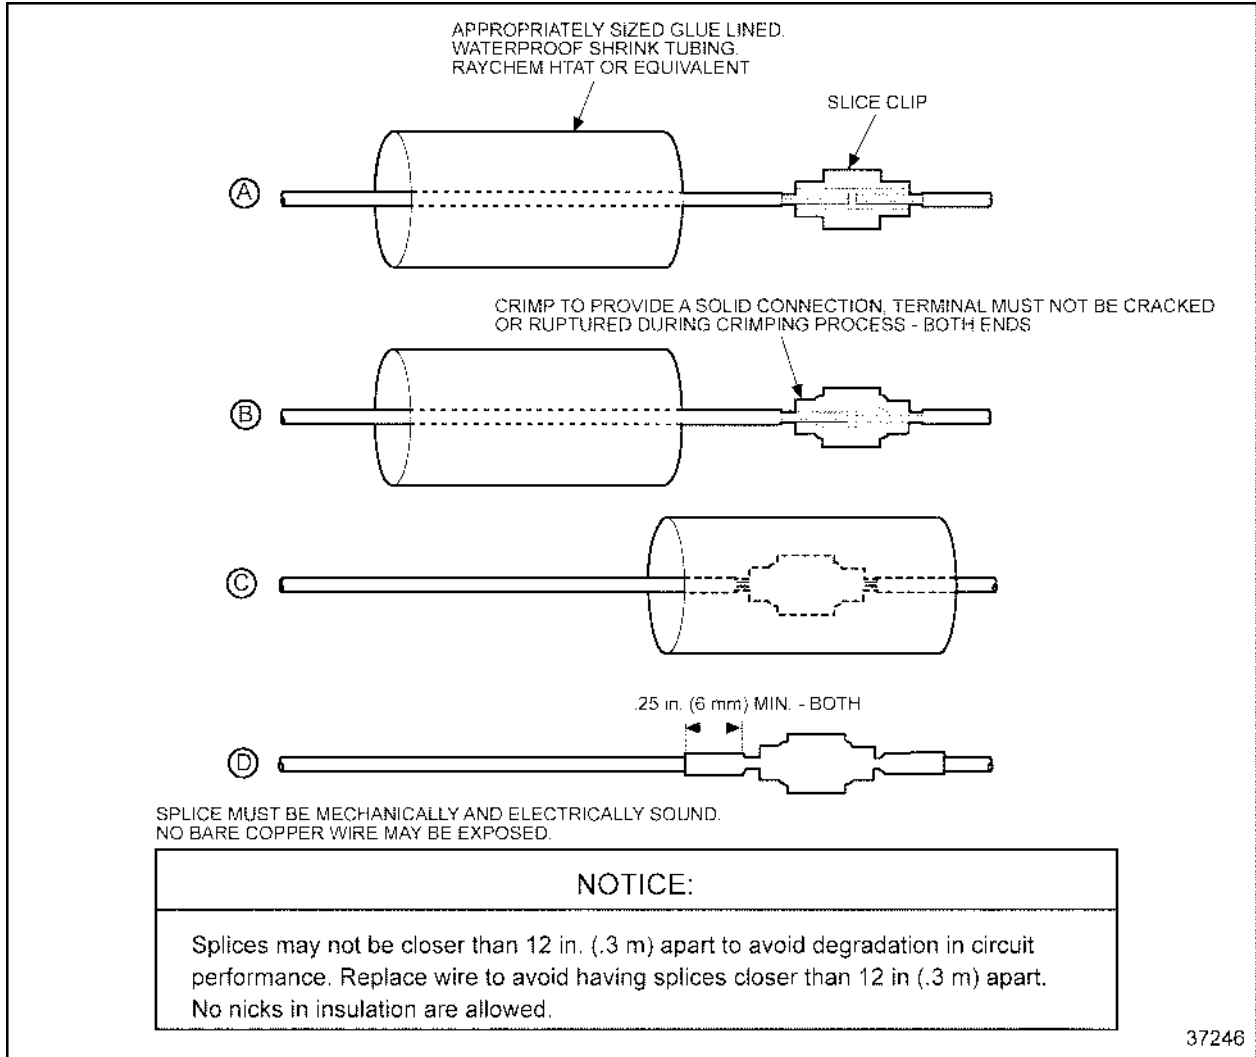

Figure 3-55 Splicing Straight Leads - Alternate Method 2
3. Slide a sleeve of glue lined, shrink tubing (Raychem HTAT or equivalent) long enough to cover the splice clip on the wire and overlap the wire insulation, about .25 in. (6 mm) on both sides (see Figure 3-55, A).
4. Insert one wire into splice clip until it butts against the splice clip. Stop and crimp (see Figure 3-55, B).
5. Insert the remaining wires into the splice clip one at a time until each butts against the splice clip; stop and crimp (see Figure 3-55, B).
7. Slide the shrink tubing over the crimped splice clip (see Figure 3-55, C).
8. Shrink tubing with a heat gun to seal the splice (see Figure 3-55, D).